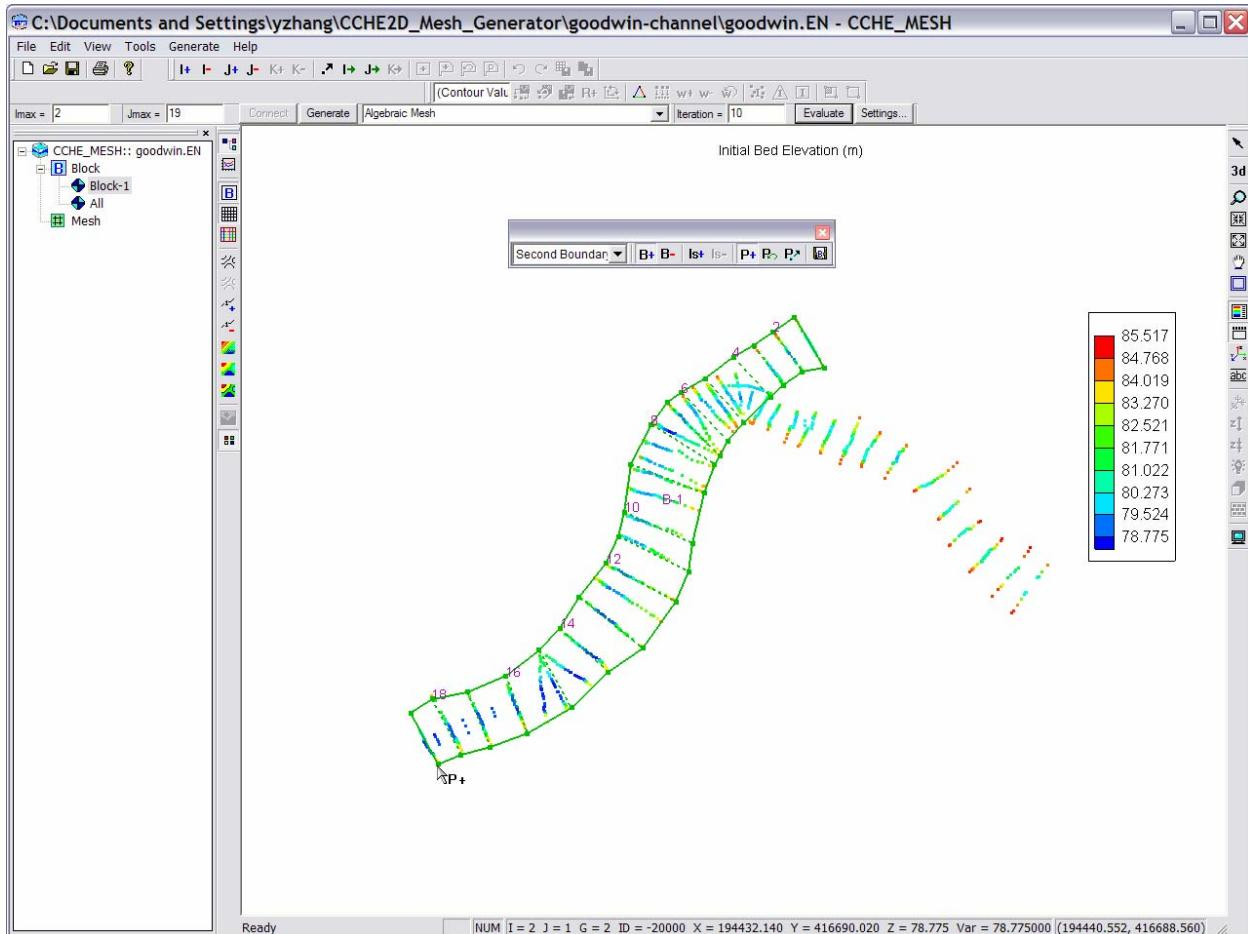

Figure 4-28
- To **delete a block**: click first, then click anywhere within the block you want to delete. If the block you want to delete has more than one connected blocks, you need to delete its neighbors before deleting this block. For example, as shown in Figure 4-28, if you want to delete block 13, you need to delete block 14 and 15 first.